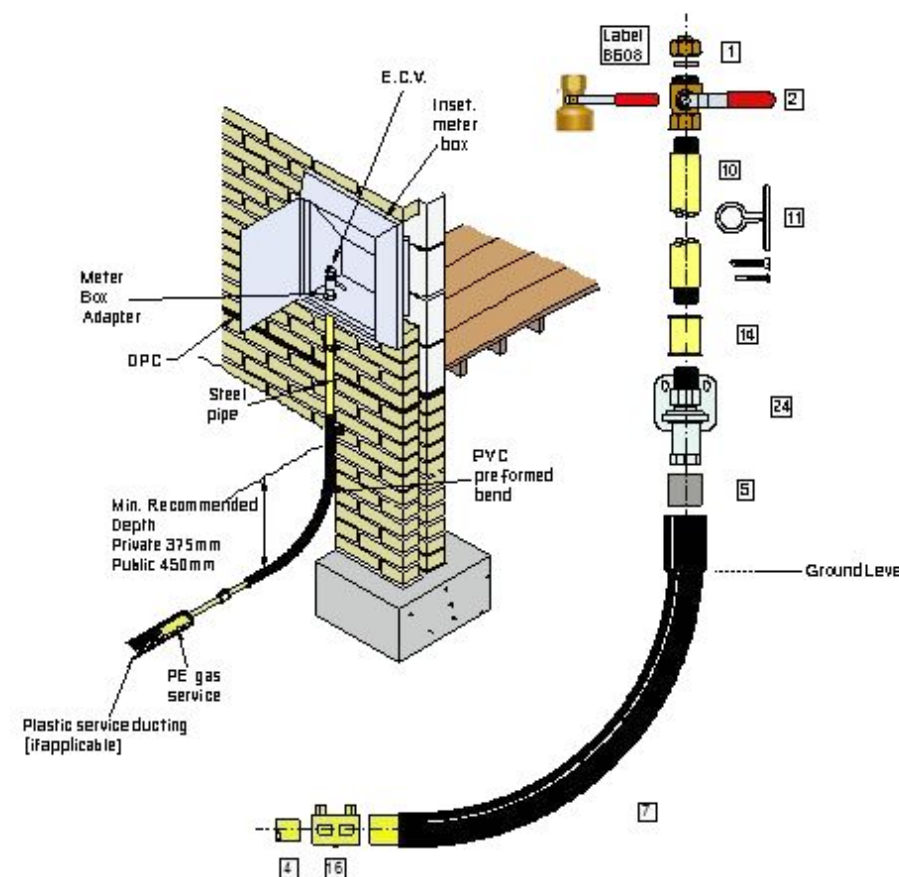
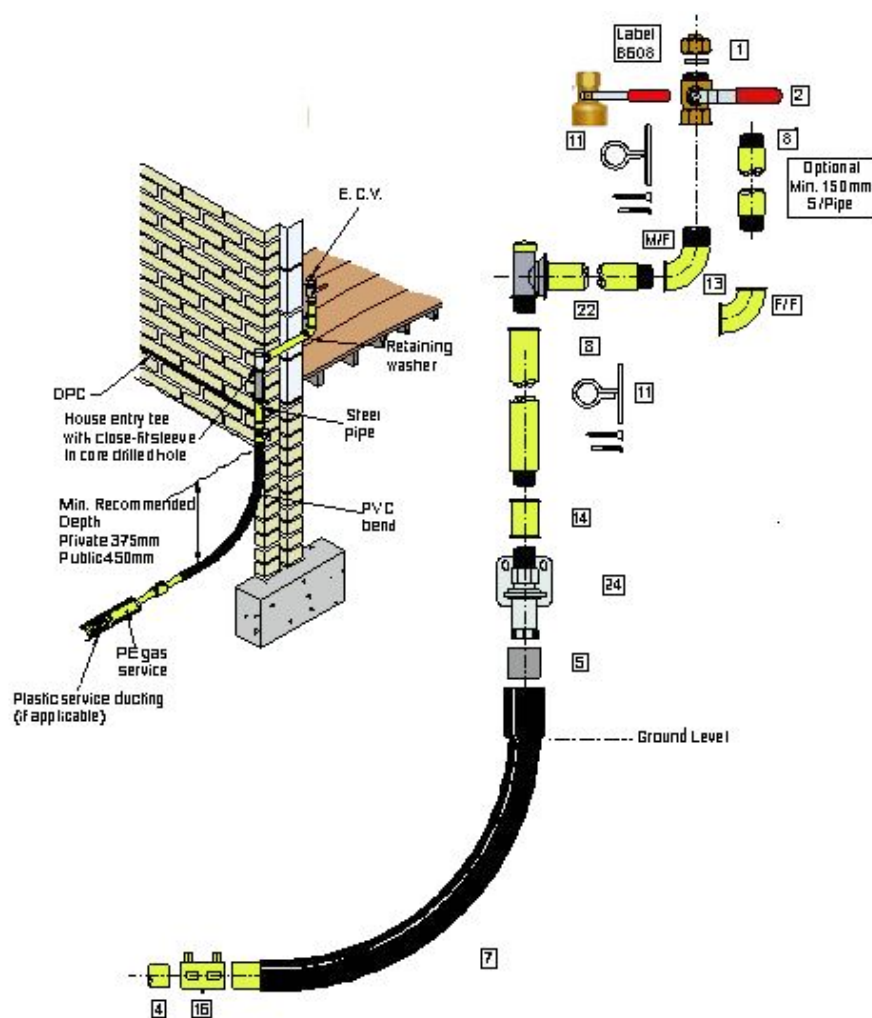

Figure 85 - PE service to inset meter box
Figure 86 - PE service to above ground entry position
- steel pipe must be used as shown in Figure 85 & Figure 86.
*Note: Figure 86 illustrates the house entry tee with a screwed BSP thread to allow the steel riser to be connected.*